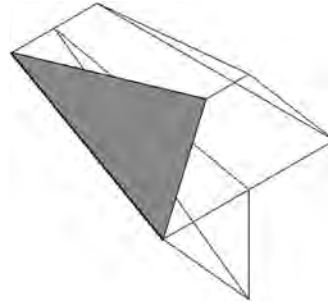
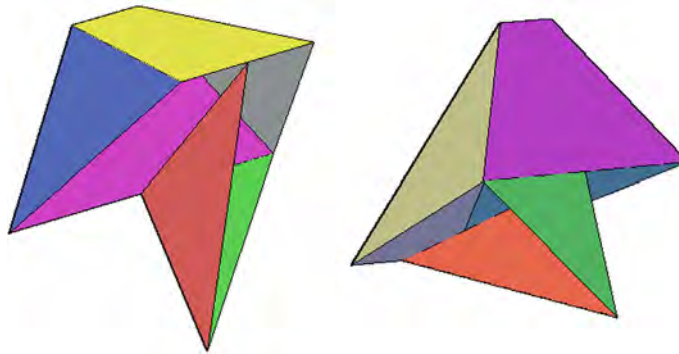

FIGURE 26.21
FIGURE 26.22
Step 3. After three or four clicks (depending on which facet you chose to do first) you should be able to get what is seen in Figure 26.21. Continue covering the other faces, and add color, to get what is shown in Figure 26.22 (viewed from several angles).